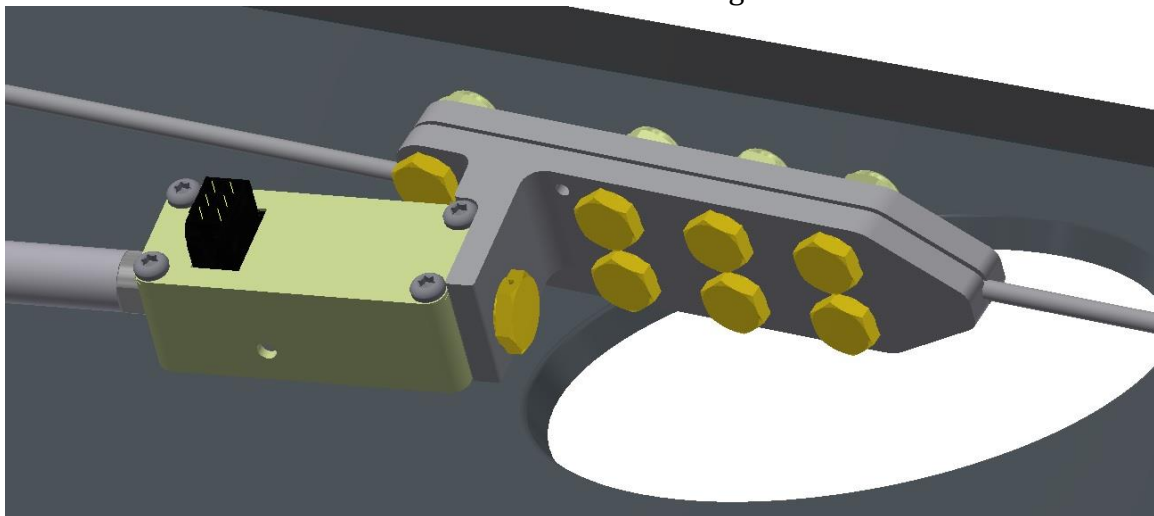

Figure 3-13
10.2. Clamp the elevator cable between the C172 Early Pitch Clamp Link Sensor Half (P/N 1420-227) and C172 Early Pitch Clamp Half (P/N 1420-228) and fasten with 8 AN3-5A and 8 MS20364-1032 as in figure 3-13.